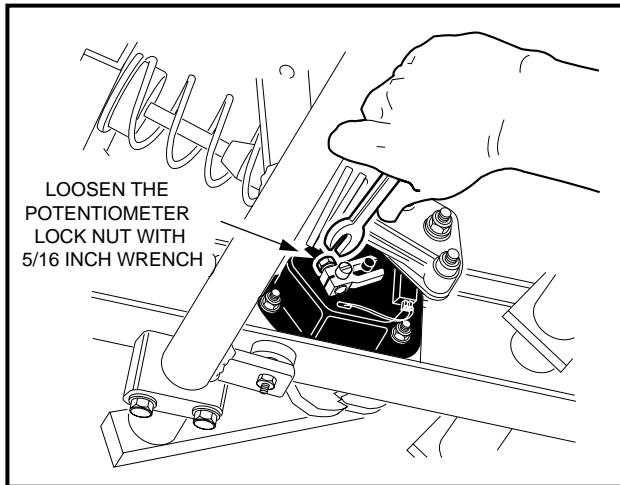

Figure 5-19 Loosen Potentiometer Locknut
- 6.7. Loosen the potentiometer adjustment lock nut (**Figure 5-19, Page 5-12**).